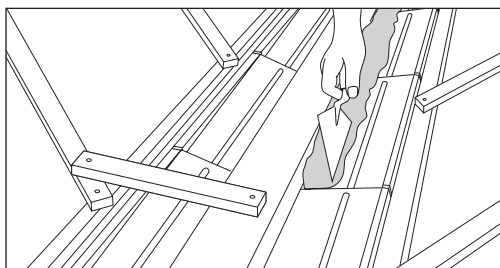

Fig 59 – Keep mortar within the two tapered bars on trough valley tiles
- Compact mortar against edge of timber, completing each side of valley separately (Fig 59).